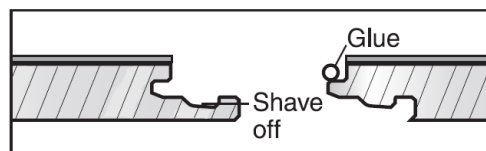

Fig. 6
1. Using a small plane or utility knife, plane or shave off 75% of the ledge of the groove (**Fig. 6**).